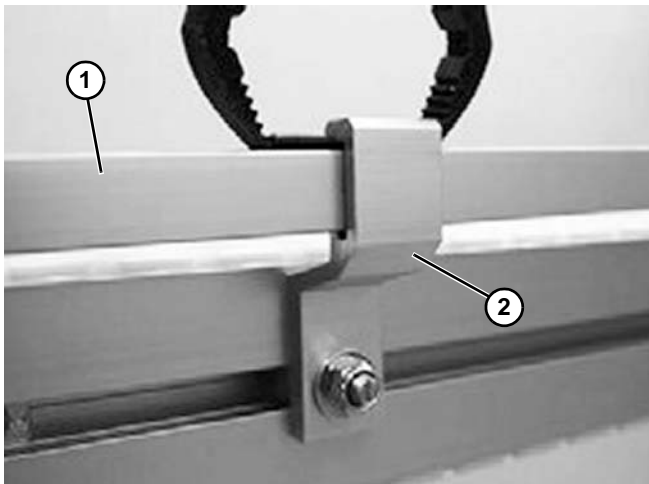

Figure 91
2. Attach the guide rail (Figure 91, item 1) to the bracket (Figure 91, item 2). Clamp the spring pin into the slot between bracket and guide rail to the fixed position.